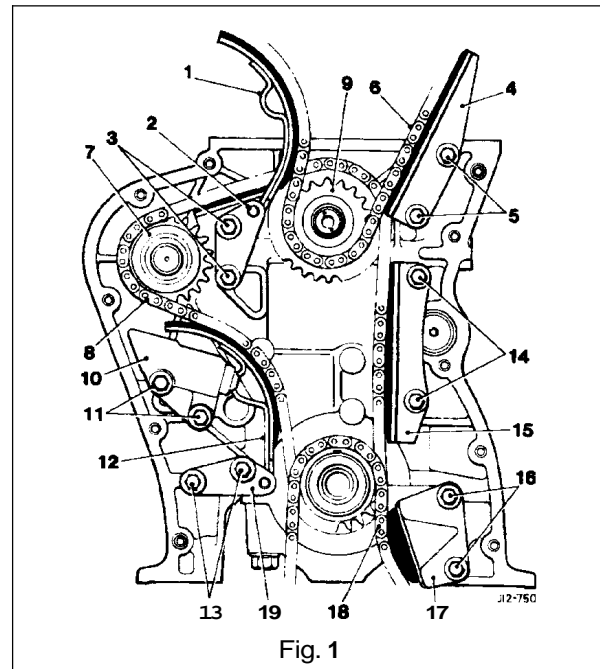

Fig. 1
- Remove the bolts (16 Fig. 1) securing the oil pump drive chain damper, remove the damper (17 Fig. 1).
- Remove the flanged bolts (14 Fig. 1) securing the lower static damper, and remove the damper (15 Fig. 1).
- Remove the upper timing chain (6 Fig. 1).